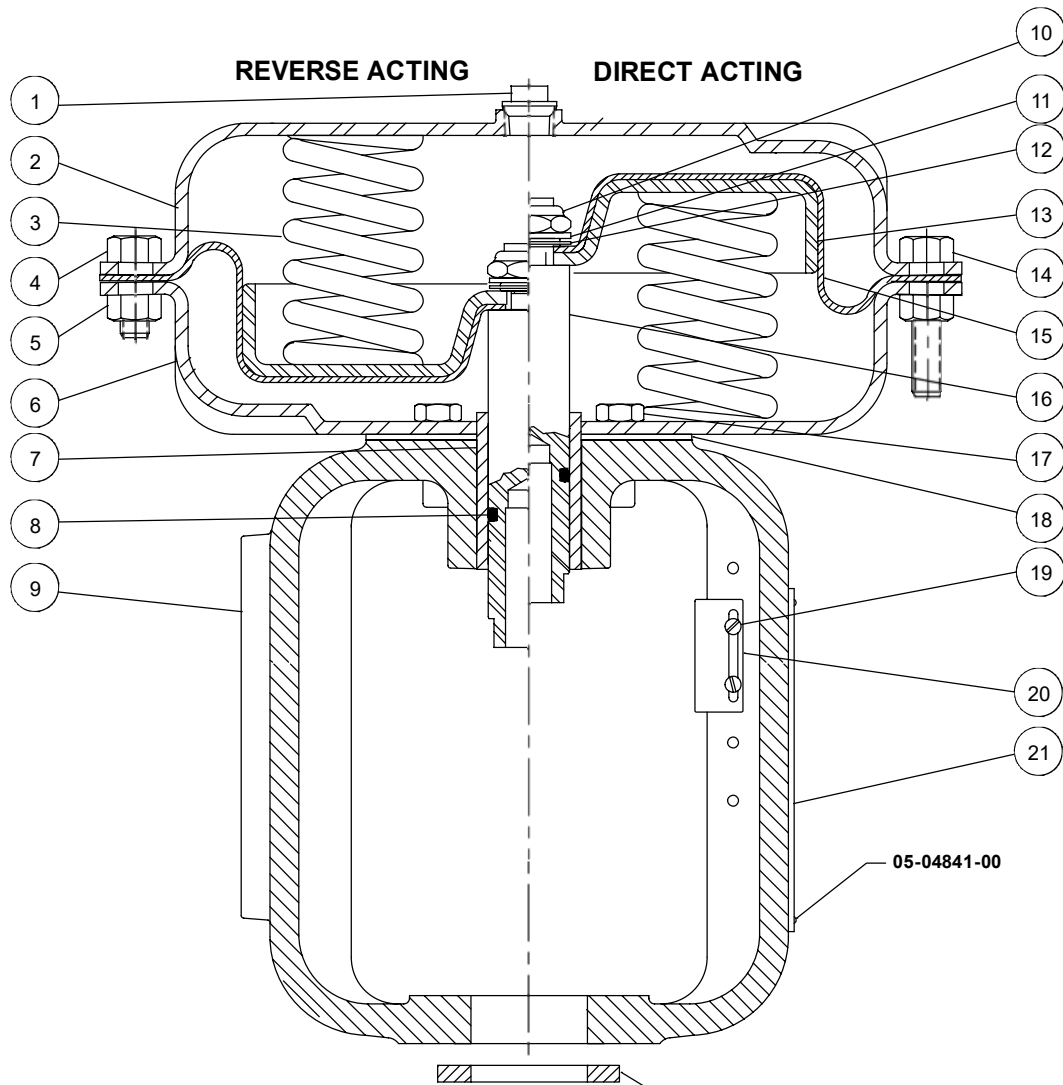

FIGURE 3
Loosen stem nuts (24) and move to approximately 1/3 down valve stem. Re-tighten being careful not to move valve stem. Energize actuator with air to lift the plug off the seat. Disengage lock nut (26) from bonnet (25). De-energize actuator. The actuator and yoke should move away from bonnet. Lift actuator and yoke assembly along with plug (39) off the seat. With an adjustable wrench, unthread valve stem from actuator stem (Fig. 3, #16) until valve stem is disengaged from actuator stem. Remove stem nuts, indicator, packing nut and lock nut.